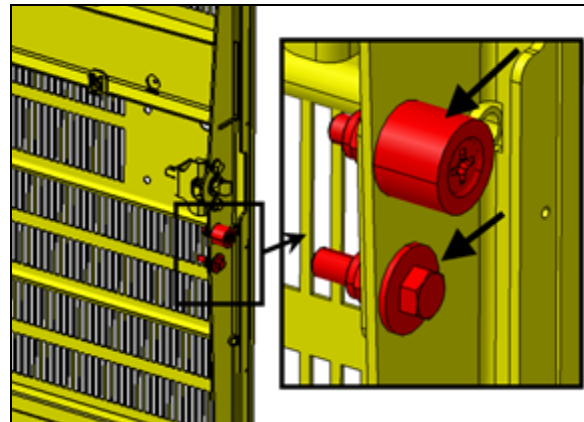

FIGURE 53
10. Check that the two items identified with arrows are snug but not tight (FIGURE 53).